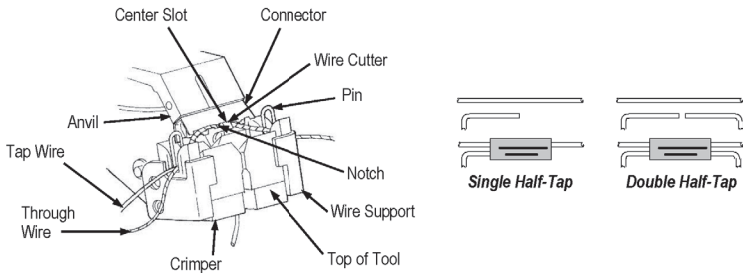

Figure 4
5.2. Tap Connections (See Figure 4)
3. Place one wire into a connector and then insert the connector into the tool as shown in Figure 4. Make sure the wire cutter enters the slots in the center of the connector and that the notch in the wire cutter does NOT interfere with the connector.